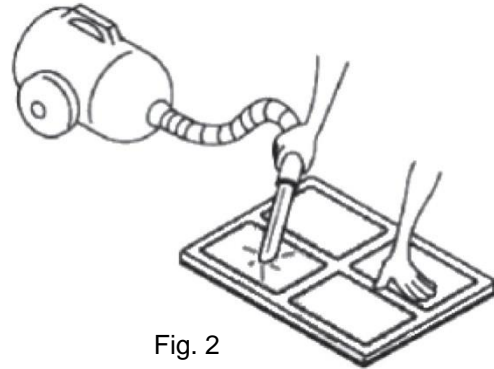

Fig. 2
- It is best to clean the air filter carefully under lukewarm water or with a vacuum cleaner on a low setting (suction power). (See Fig. 2)